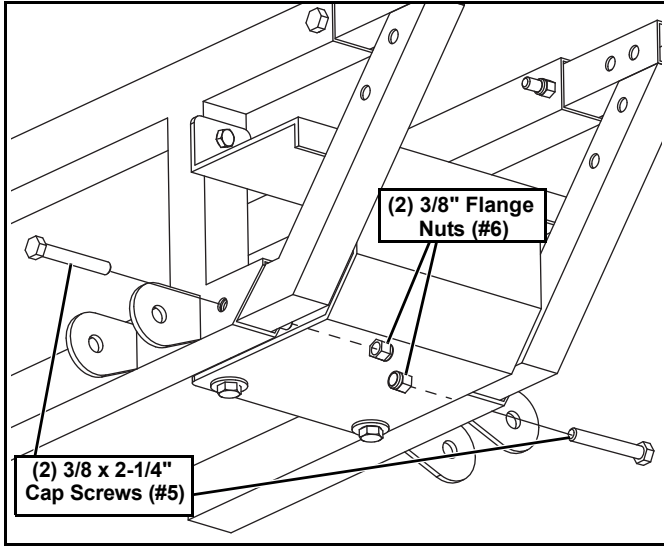

Figure 3
- Remove the lower (2) 3/8" x 2-1/4" Cap Screws (#5) and (2) 3/8" Flange Nuts (#6). Set aside hardware for installation steps. (See Figure 3.)